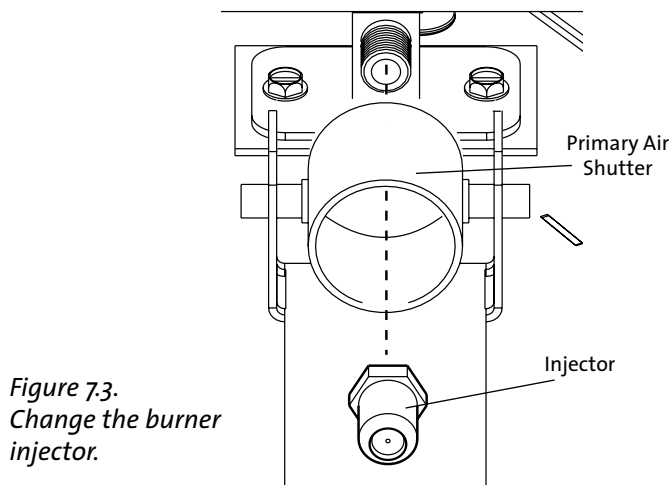

Figure 7.3.
**6. Change the Burner Injector.** See fig. 7.3. Using a 1/2" open end wrench or deep-well socket remove the burner injector from the brass elbow and replace it with the injector supplied in the conversion kit.